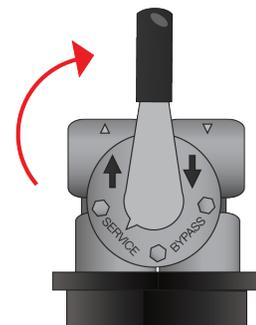

Figure 8 - Filter valve IN SERVICE position
2. Using the built-in bypass lever on the carbon filter tank as the control for the flow of water, **GRADUALLY** move the lever to the **IN SERVICE** position [See Page 13, **Figure 8**] to allow the water to **SLOWLY** fill the tank. A moderate amount of air will escape from the rinse line as the water fills the tank.